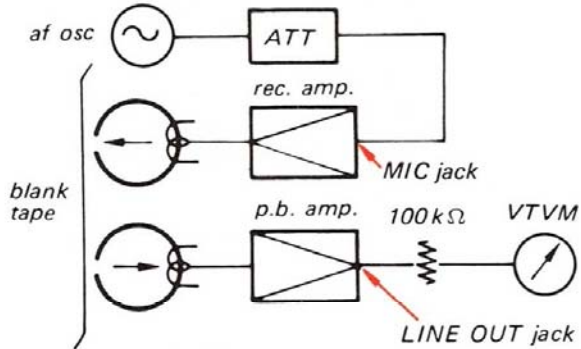

Fig. 3-2-9. Test setup for the items 8,9 and 10
- Step 3. Thread a blank tape and place the set in RECORD mode. (See Fig. 3-2-9.)
- Step 2. Deliver a 15 kHz signal of -90 dB (0.0245 mV) to the MIC jack and adjust the azimuth adjusting screw to obtain a maximum meter reading. (See Fig. 3-2-9 and 3-2-10.)
- Step 3. Deliver a 1 kHz signal of -60 dB (0.775 mV) to the MIC jack and turn the bias adjusting trimmer capacitor C122 (C222) at fully counterclockwise. (See Fig. 3-2-9 and 3-2-11.)